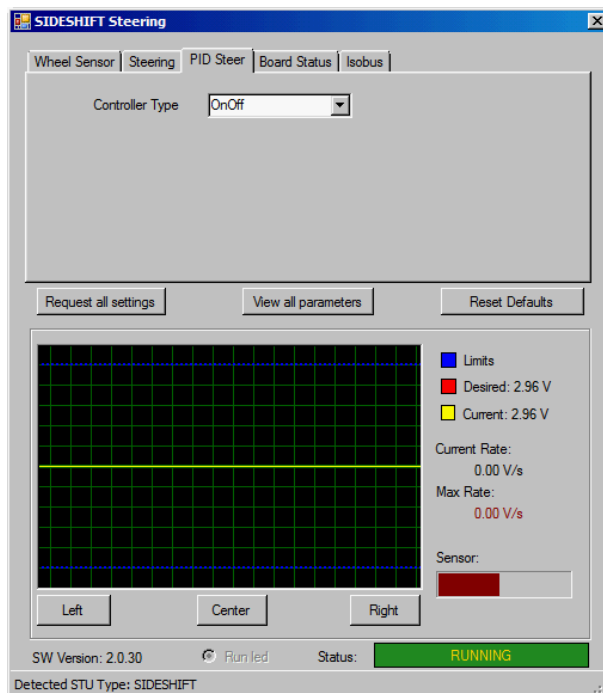

Figure 22 CANTool tab PID Steer On/Off
1. In tab named "PID Steer" (Figure 22) select at "Controller Type": "On/Off"